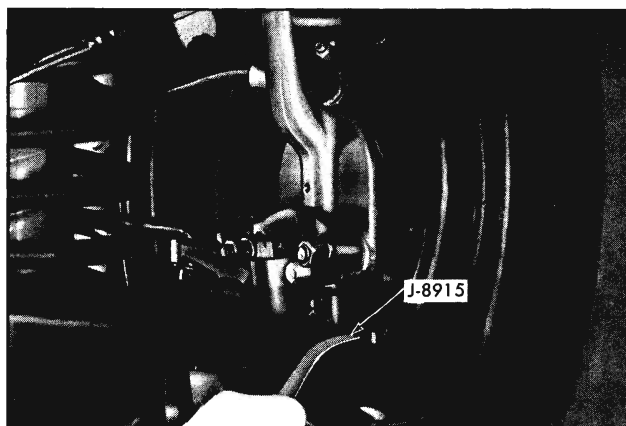

Fig. 5-3 Expanding Adjusting Screw
2. Using tool J-8915 or equivalent expand adjusting screw to produce 5-8 lb. drag on outside of tire (Fig. 5-3).
1. Using tool J-8915 expand adjusting screw to produce 5-8 lb. drag on outside of tire (Fig. 5-3).